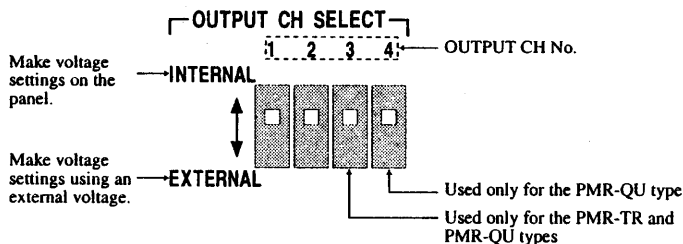

Fig. 4-4 Settings of the OUTPUT CH SELECT switch
2. Set the OUTPUT CH SELECT switch corresponding to the output to be controlled externally, to EXTERNAL. (Fig. 4-4)
3. Set the OUTPUT CH SELECT switch 3 to EXTERNAL. See Fig. 4-4.